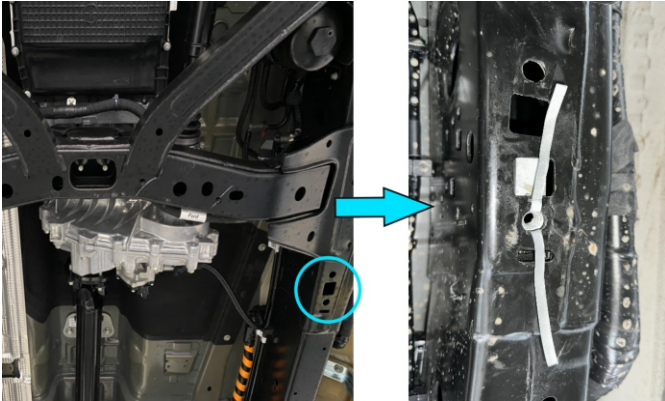
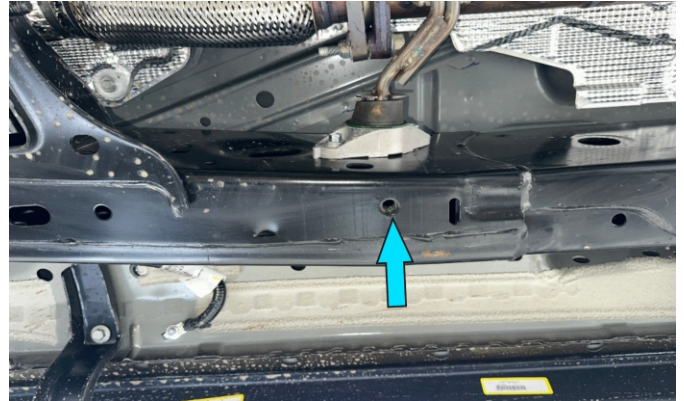

Fig. 1
Fig. 2
1. Install M10 insert nuts (item F) on both sides of the frame as shown in fig.1. If there is a factory threaded hole on the passenger side (fig.2), it is only necessary to install an insert nut on the drivers side.